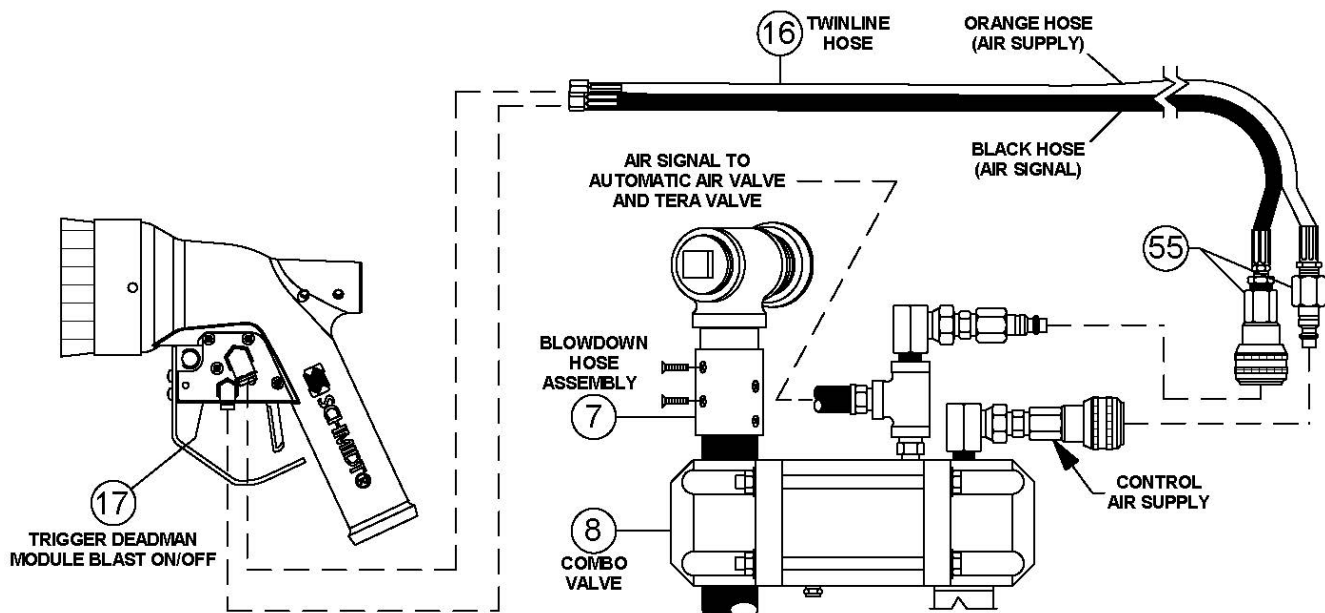

Figure 5.5 – Pneumatic Blast Control System
5.12.1. Pneumatic Deadman System: When the pneumatic G2 Trigger Deadman lever (#17) is pressed down air supply from the orange hose of the twinline hose (#16) flows into the black hose. Air flows through the black hose sending air signals to the ComboValve® (#8), the automatic air valve (#12), and the Tera Valve XL (#14). When the deadman lever is released, the air signal is cut off and the signal air vents from the deadman lever (#17). See Figure 5.5 and the drawings in Section 9.1.